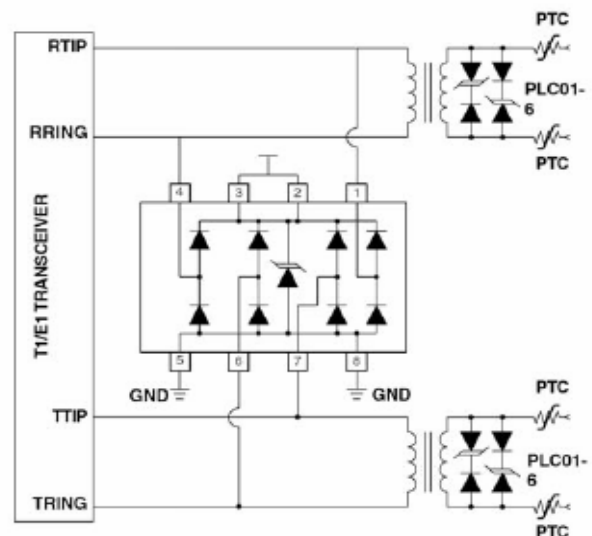

Figure 2. Typical Differential-Mode T1/E1 Protection
DIFFERENTIAL-MODE CONFIGURATION (Figure 2)
The SRDA3.3-4 Series also provides up to four (4) lines of protection in a differential-mode configuration as depicted in Figure 2 for T1/E1 applications.